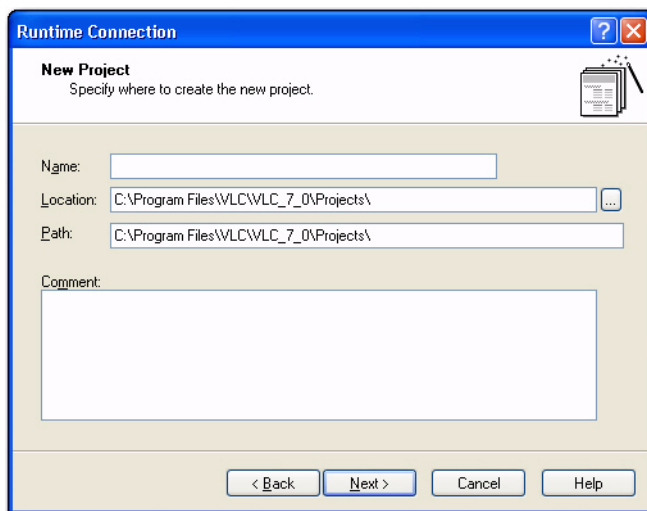

Figure 3-3 “New Project” page of the “Runtime Connection” wizard.
- For “New”, the “Runtime Connection” wizard displays the page shown in Figure 3-3. Enter a name for the project. As you enter a project name, the path automatically updates. You can edit the path or enter a comment before clicking the “Next” button, and then continue with step 6.